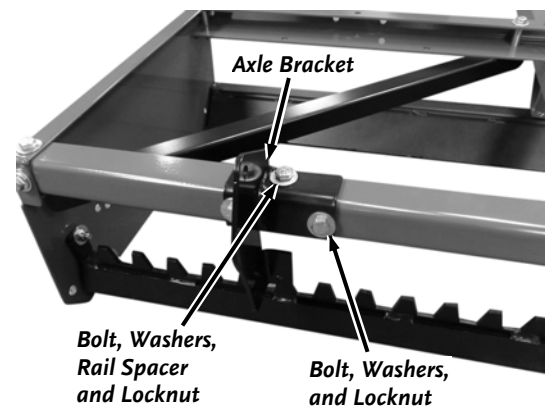

Figure 15
21. Secure the top of a Axle Mounting Bracket onto the rear Crossmember with a 3/8-16 X 2-1/2" Bolt, 3/8" Washer (Bolt side), Rail Spacer (inside Crossmember) 3/8" Washer (locknut side) and 3/8" Locknut using two 9/16" Wrenches (**Figure 15**).